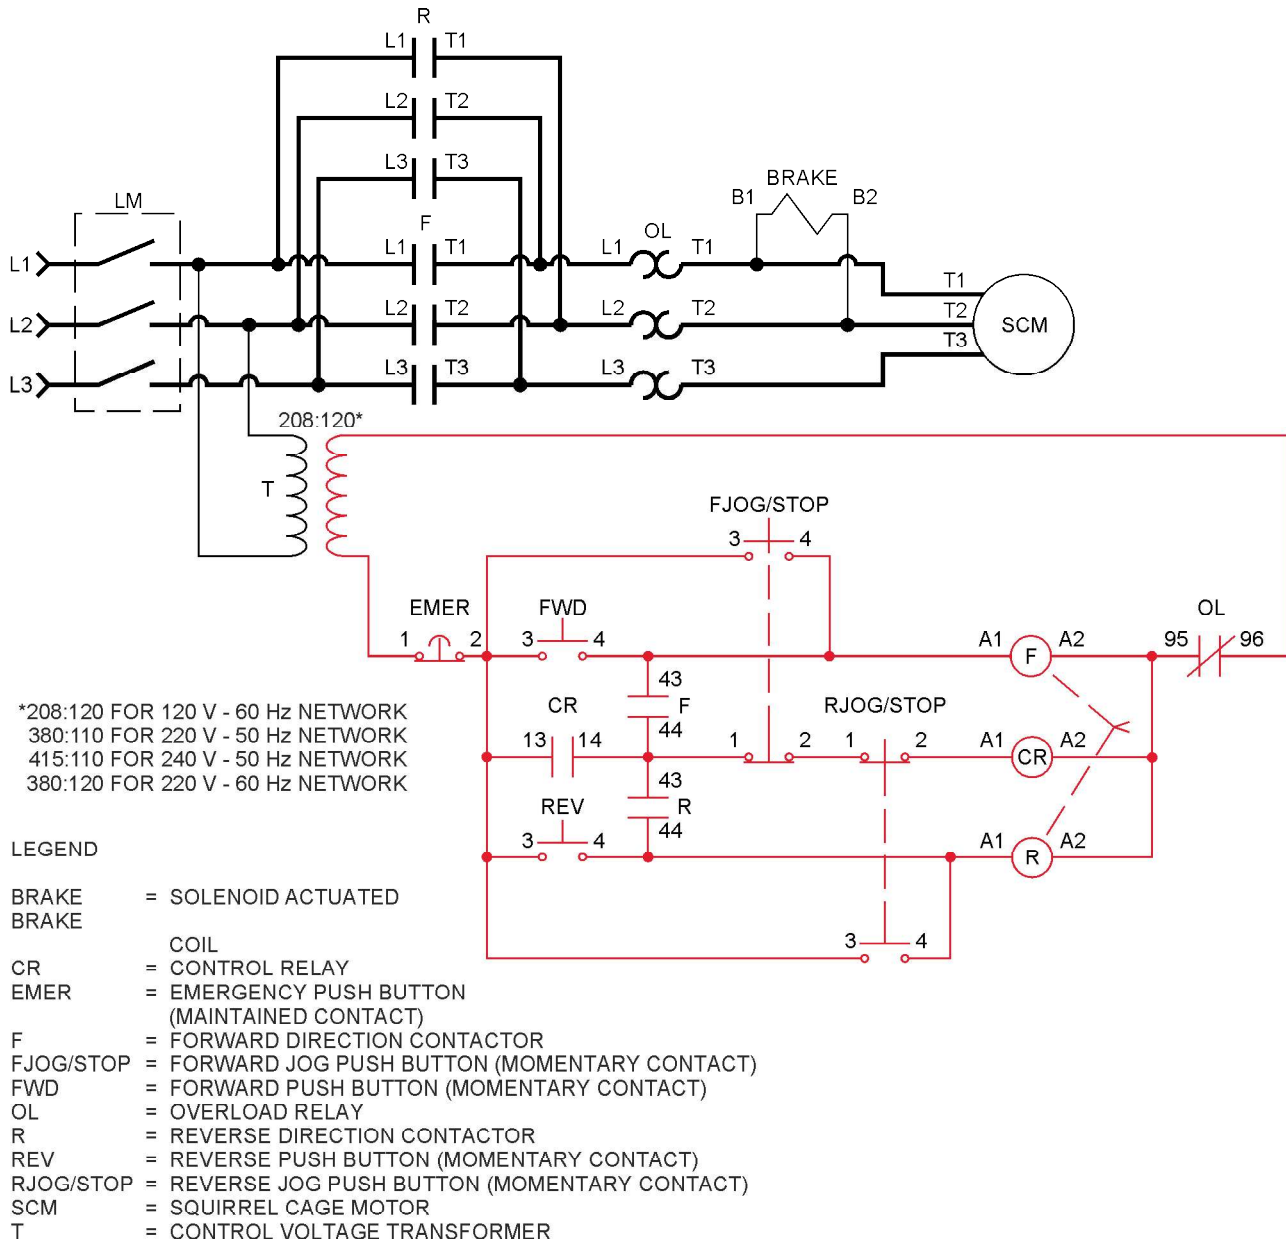

Figure 4-9. Reversing starter circuit with push button jogging.
Figure 4-9 is a schematic diagram of a jogging control circuit made of a reversing starter and a control relay. This circuit can be jogged while the motor is at a standstill or is rotating in either direction.
Connect the circuit shown in Figure 4-9.
*Your client wants you to change the control circuit of Figure 4-9 to incorporate a selector switch. He does not like the idea of having a control relay and wants the circuit to be simpler. He also wants a push button interlock permitting immediate reversal of motor rotation direction.*
1. In the Figure 4-9 circuit, what happens if the lead between the RJOG/STOP NC contact and the control relay coil is disconnected?
2. In the Figure 4-9 circuit, what happens if both jog buttons (FJOG/STOP and RJOG/STOP) are pressed simultaneously?
3. In the Figure 4-9 circuit, what happens if both start buttons (FWD and REV) are pressed simultaneously?